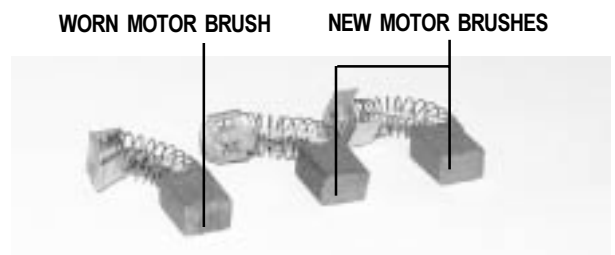

Figure 30. Motor Brushes
5. Inspect for wear. See figure 30.